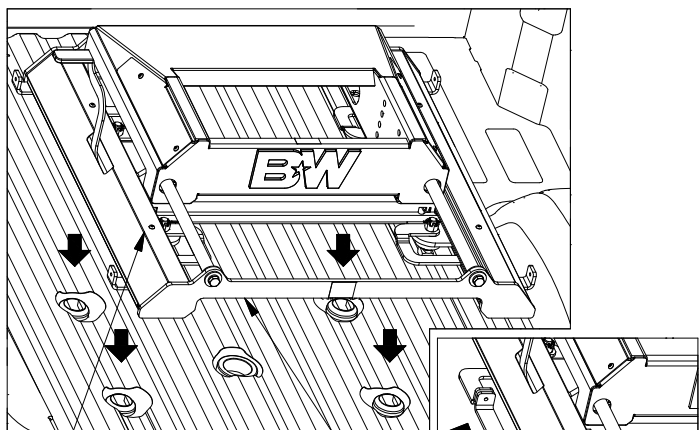

Figure B1: View of unlatched base.
⚠ CAUTION: Lifting the slider base under the sheet metal covers may cause damage to the base, grip base by end rail supports to lift, see Figure B1.
- 1. Place base.** Remove the latch pins from each side of the base and rotate the handles out, see Figure B1. Position the base over the attachment points. Carefully lower it until the latch cams pass through the floor and the base rests flat against the top of the attachment points.